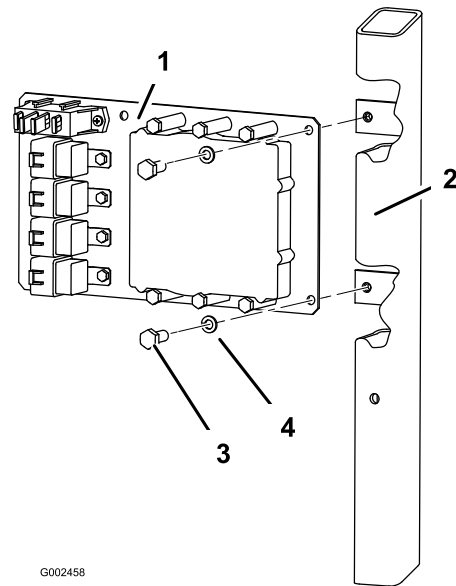

Figure 10
B. For the Multi Pro 5600 and 5700 install the mount plate using 2 bolts (5/16 x 3/4 inch) and 2 lock washers (5/16 inch) as shown in Figure 10.